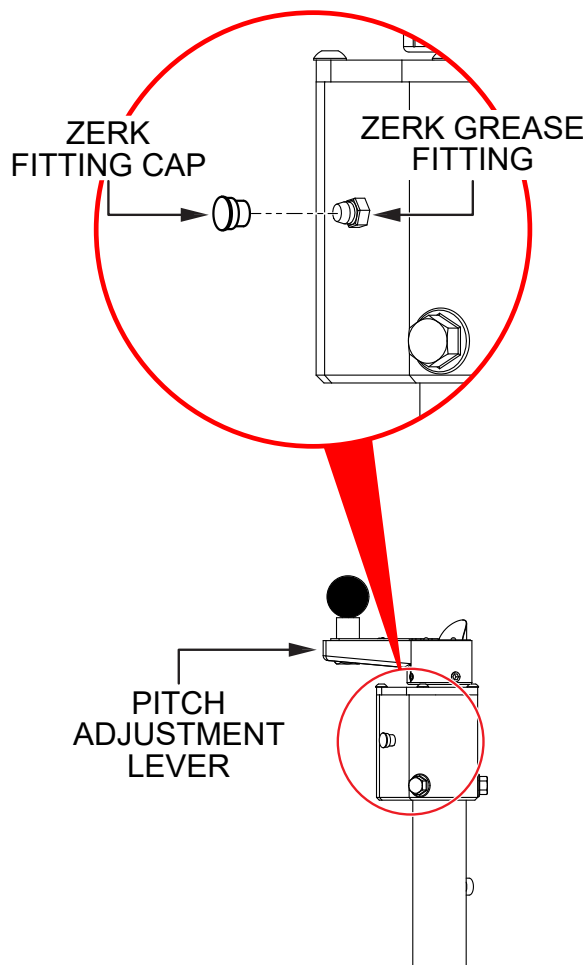

Figure 29. Pitch Tower Lubrication
1. Locate the Zerk grease fitting just below the pitch adjustment lever on either pitch tower (Figure 29). Remove the Zerk grease fitting cap and set it aside.